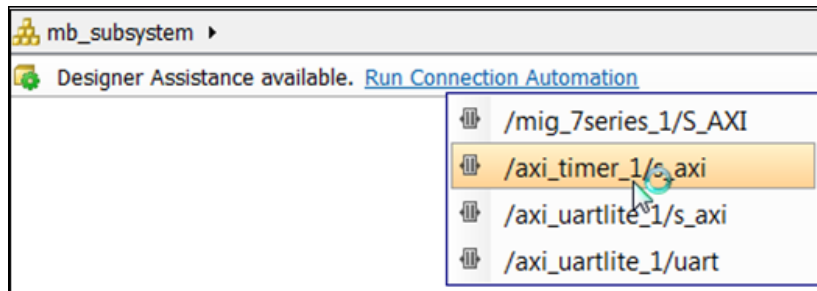

Figure 108: axi_timer_1/s_axi
2. Click **Run Connection Automation** and select `/axi_timer_1/s_axi` (Figure 108).